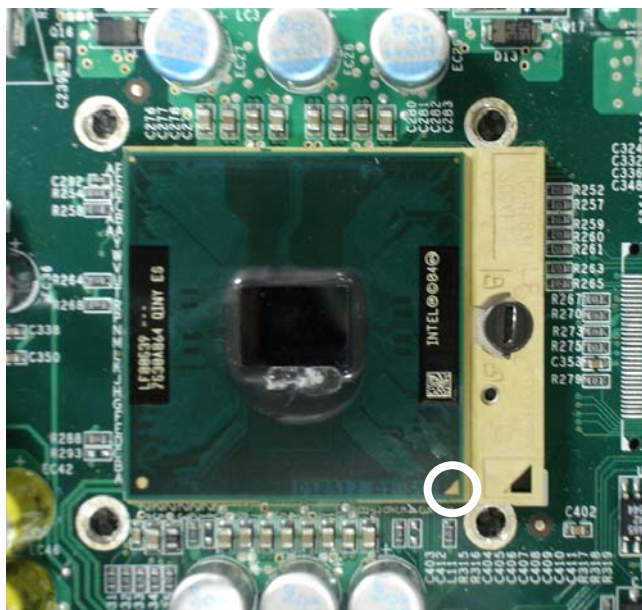

Figure 5-1
- (1) Locate Pin 1 in the socket and look for a tri-angle on CPU upper interface. Match Pin and tri-angle, and then insert the CPU into the socket as Figure 5-1.